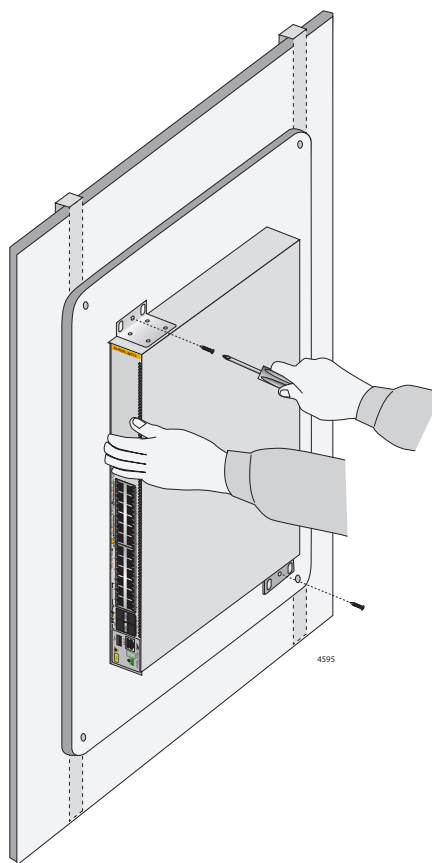
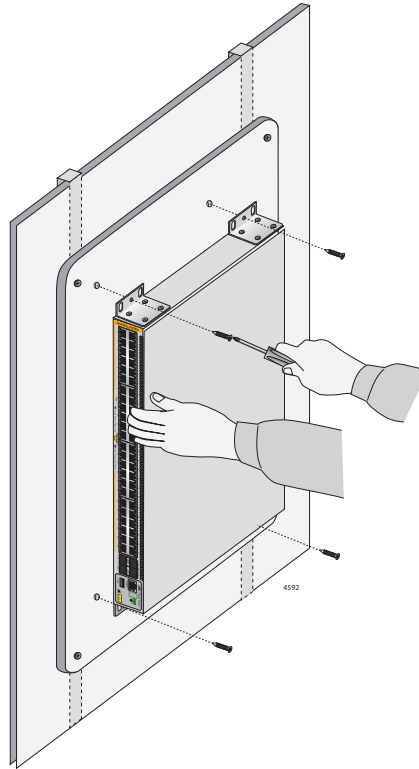

Figure 33. Securing the AT-x530L-28GTX and AT-x530L-52GTX Switches to the Plywood Base
Figure 34. Securing the AT-x530L-28GPX and AT-x530L-52GPX Switches to the Plywood Base
3. After attaching the brackets, have another person hold the switch on the plywood base on the wall while you secure it with the M4x32.3mm screws included with the switch. Refer to Figure 33 on page 78 for the AT-x530L-28GTX and AT-x530L-52GTX switches or Figure 34 on page 79 for the AT-x530L-28GPX and AT-x530L-52GPX switches.
- Position it so that the front panel is facing up, left or right. Refer to Figure 34. Do not install it with the front panel facing down.
- ❑ Position it so that the front panel is facing up, left or right. Refer to Figure 34 on page 79. Do not install the switch with the front panel facing down.